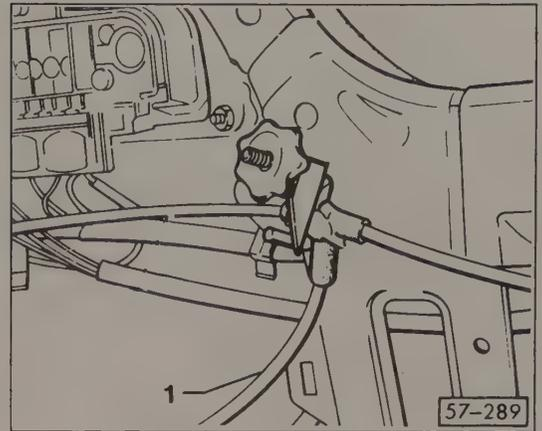

Fig. 5-10. Hose being clamped (1) in right rear of car. Clamp blocks air flow to right front and rear doors.
- Clamp the hose as shown in Fig. 5-10. If the pump runs longer than 5 seconds when activated, go to step 6. If the pump turns off within 5 seconds, either the right front or rear door activator, or the hose to them is faulty. Go to step 5. Remove the clamp.